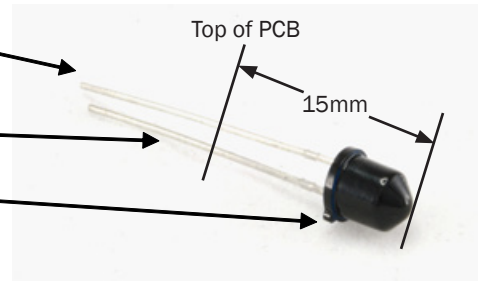

Figure 5. QSD723
- Place and solder Darker IR Receiving Diodes, RX1 and RX2 (Note polarity see Figure 5.) Long leg to A, Short leg to K.
NOTE: If leads have already been cut and you are unsure of Polarity you can still tell the difference between Cathode and Anode. On the CQY89A the Cathode lead "K" is the one connected to the larger piece of metal inside the Clear Plastic body as in Figure 8. On the QSD723 the Cathode lead "K" is the one closest to the tab sticking out on Dark Plastic body as in Figure 5. If there is no "tab" the Cathode "K" will be towards Flat on Body.